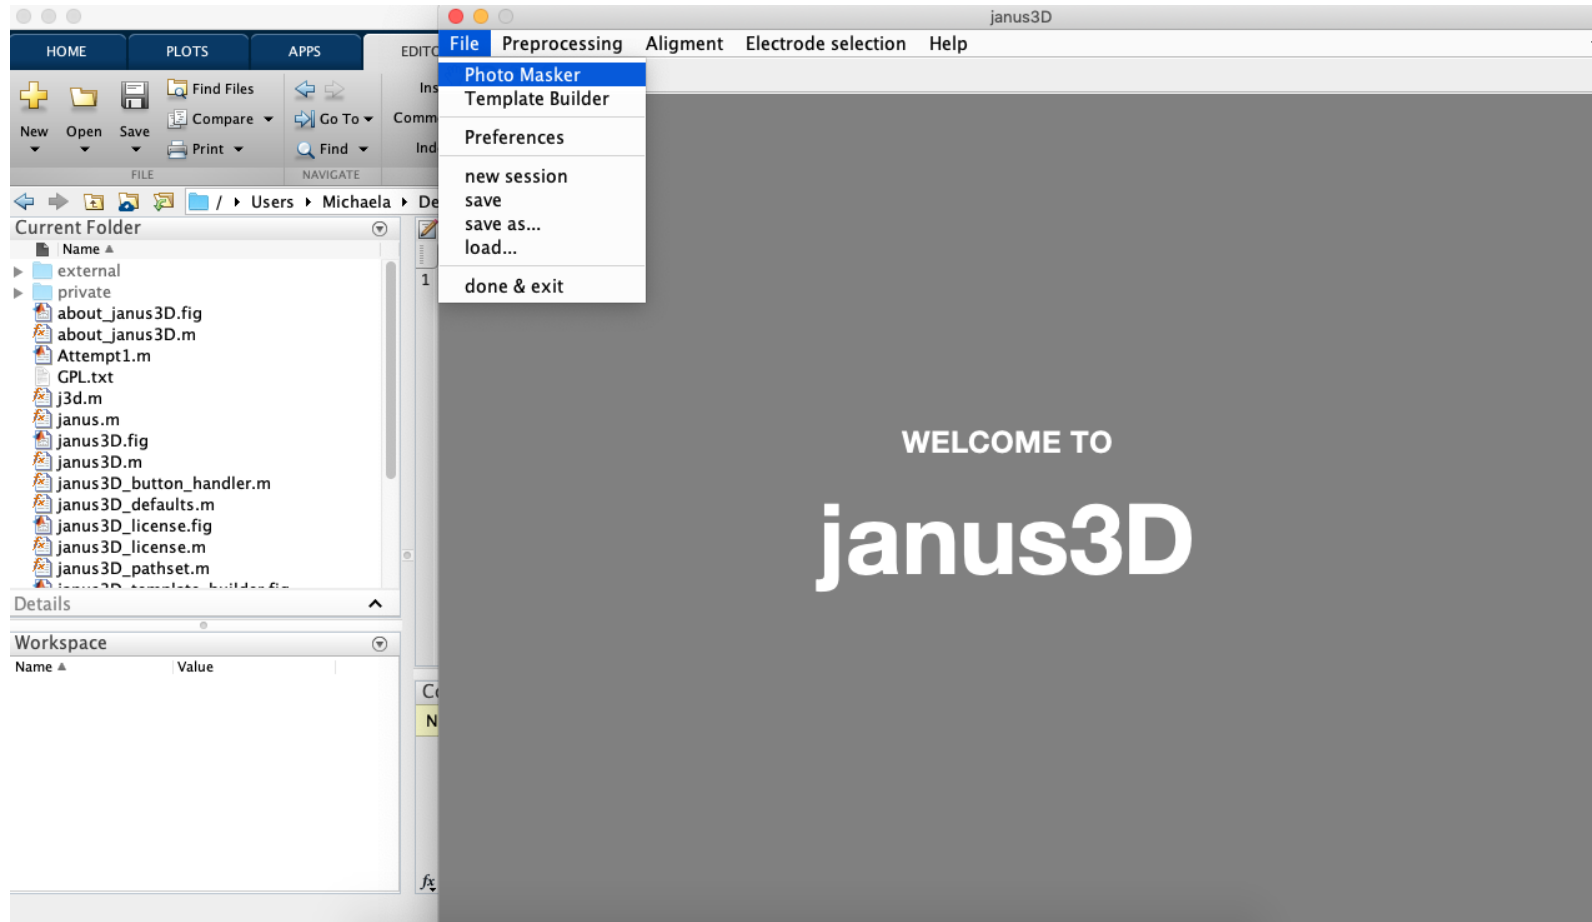
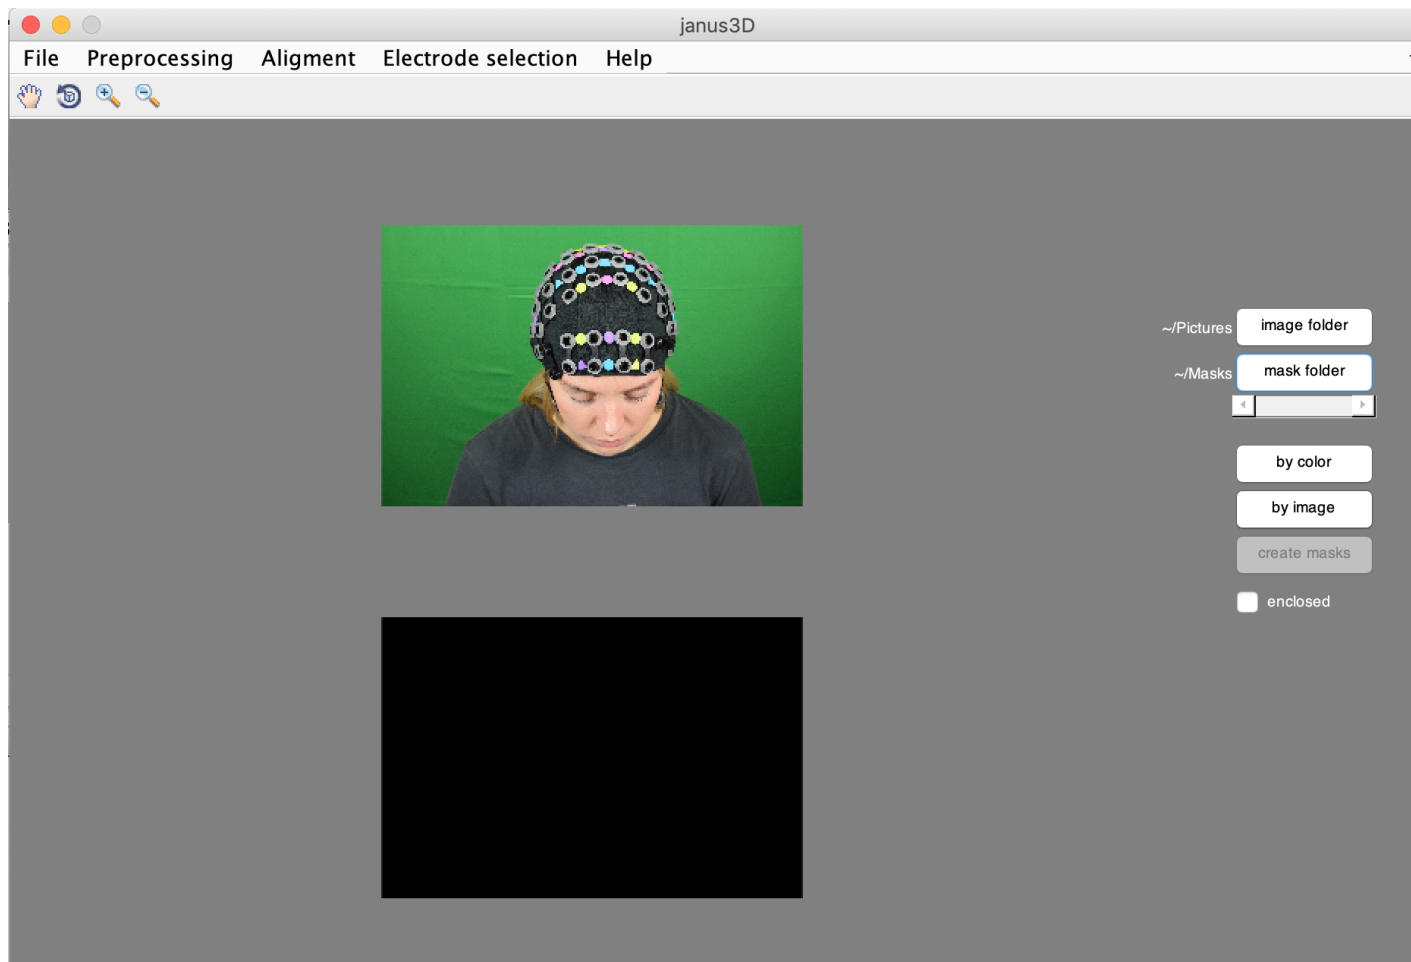

Figure 7. Selecting Photo Masker in janus3D
Figure 8. Creating a mask folder in janus3D
3. Go to “File”, select “Photo Masker” (Figure 7), click on “image folder” and select the images. Then click on “mask folder” (Figure 8) and set up another folder in your “pictures_subjectX” folder labeled “masks_subjectX” or similar, where the masks will be saved to, then select the folder that you just created.